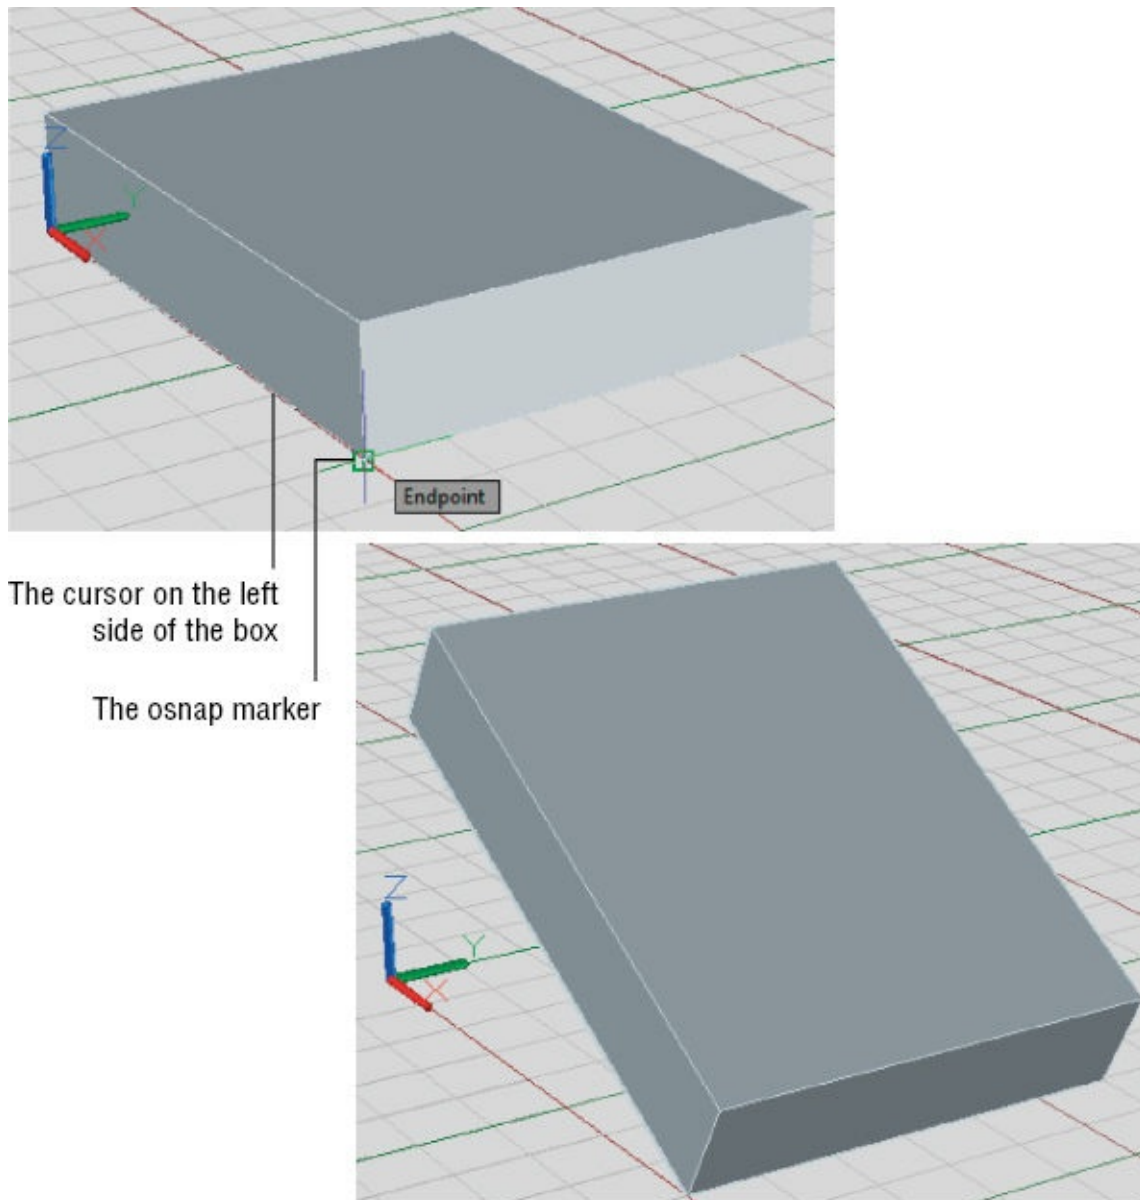

FIGURE 20.11 Selecting a base point, and the resulting box orientation
5. Place the cursor on the left side as shown in the top image of Figure 20.11; then Shift+right-click and select Endpoint from the Osnap context menu.
6. While keeping the side highlighted, place the osnap marker on the lower-front corner of the box, as shown in the top image in Figure 20.11. Click this corner. As you move the cursor, the box rotates about the y-axis.
7. Enter **-30** for the rotation angle. Your box should look like the image at the bottom in Figure 20.11.